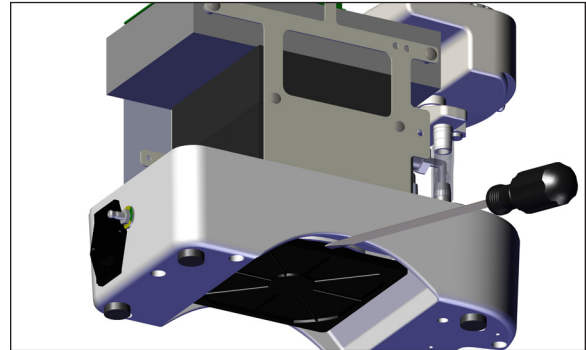

Figure 141 - Step 3 Pry filter cover off
3. Use the slotted tip screwdriver to pry the filter retainer from the base of the unit. (Figure 141).